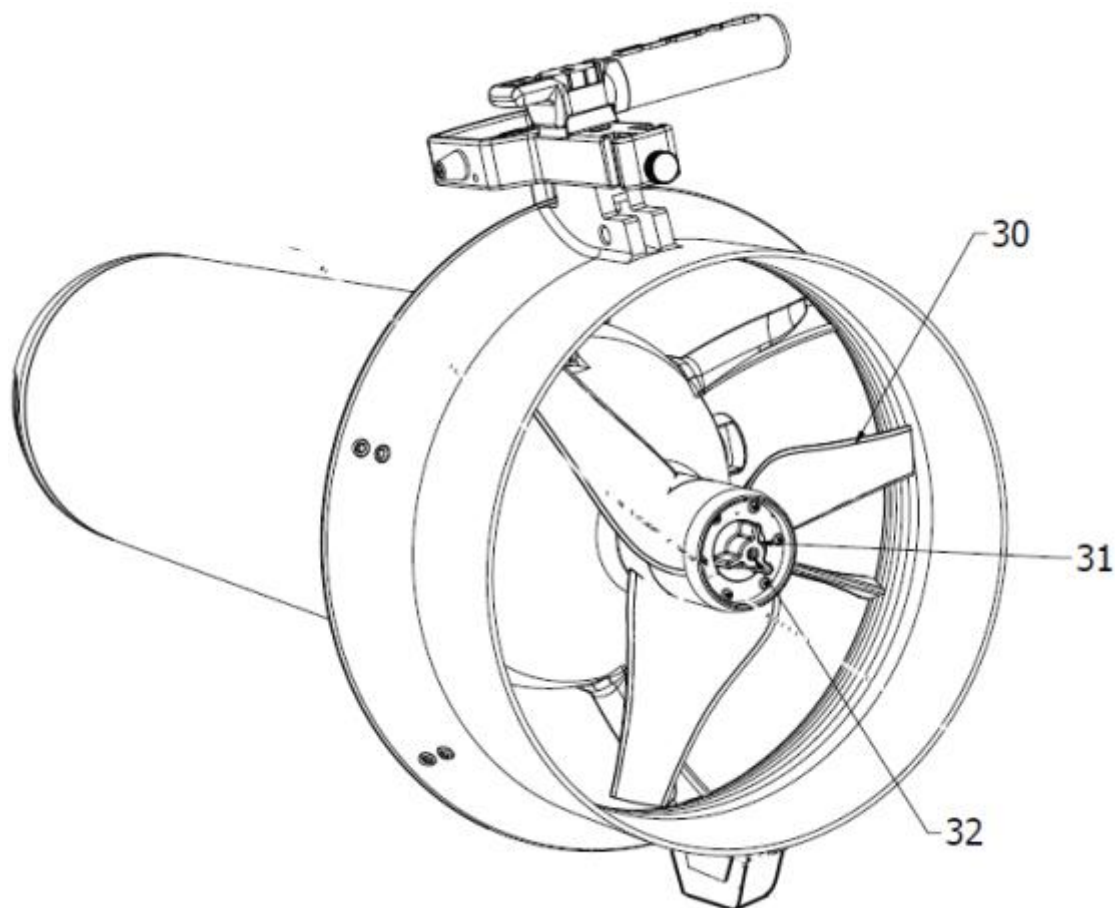

Fig.9 - Removal of the propeller
Grasp the propeller by a blade (30 - Fig. 9) and unscrew the knob (31), turning anticlockwise until the propeller is completely extracted.